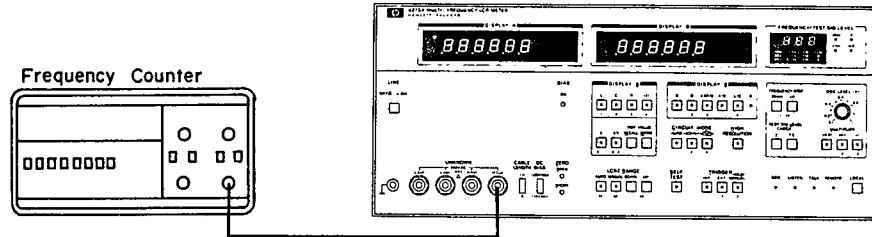

Figure 4-1. Test Frequency Accuracy Test Setup.
1. Connect BNC to BNC cable to 4275A UNKNOWN HCUR terminal and to frequency counter input as shown in Figure 4-1.